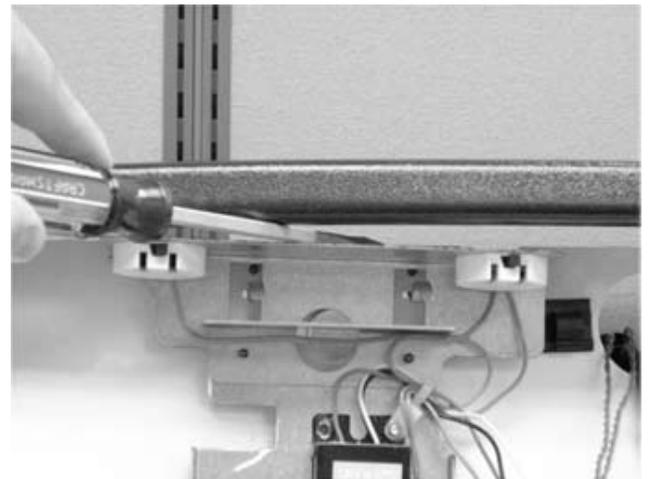

Figure 43.
- H. Place screwdriver between top of bracket and merchandiser, as shown in Figure 43.